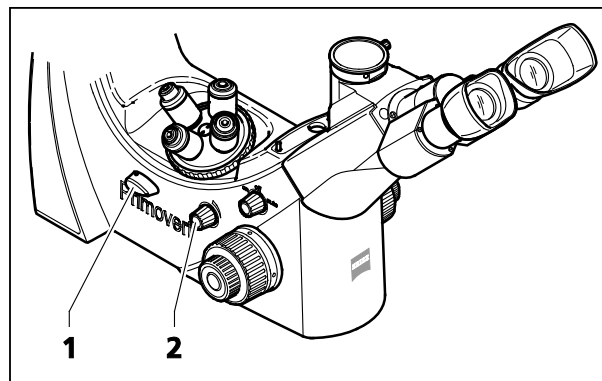

Fig. 19 Adjusting reflected-light fluorescence
- Turn the transmitted light / reflected light changeover switch (Fig. 19/1) upward to the reflected-light position (Fluorescence).
- Switch on the reflected-light illuminator using the rotary knob (Fig. 19/2) and adjust the desired illumination intensity.